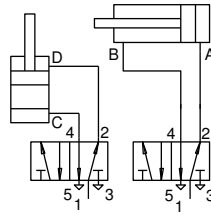

fig 5
### Compressed air connection, fig 5 + 6
1. Remove protection plug (1) on intermediate stop (2).
3. Connect pneumatic hoses as per diagram; fig 5.